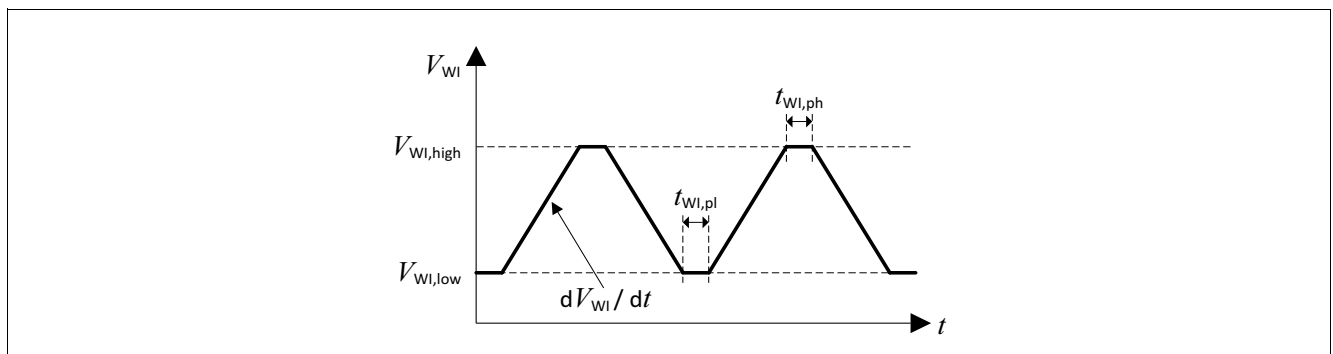

Figure 10 Test Pulses Watchdog Input WI
The watchdog is triggered by a falling edge at the watchdog input pin "WI". The amplitude and slope of this signal has to comply with the specification (Table "Watchdog Input WI" on Page 27). For details regarding test pulses, see Figure 10 "Test Pulses Watchdog Input WI" on Page 26.
- 1) For details on applied test pulse, see Figure 10